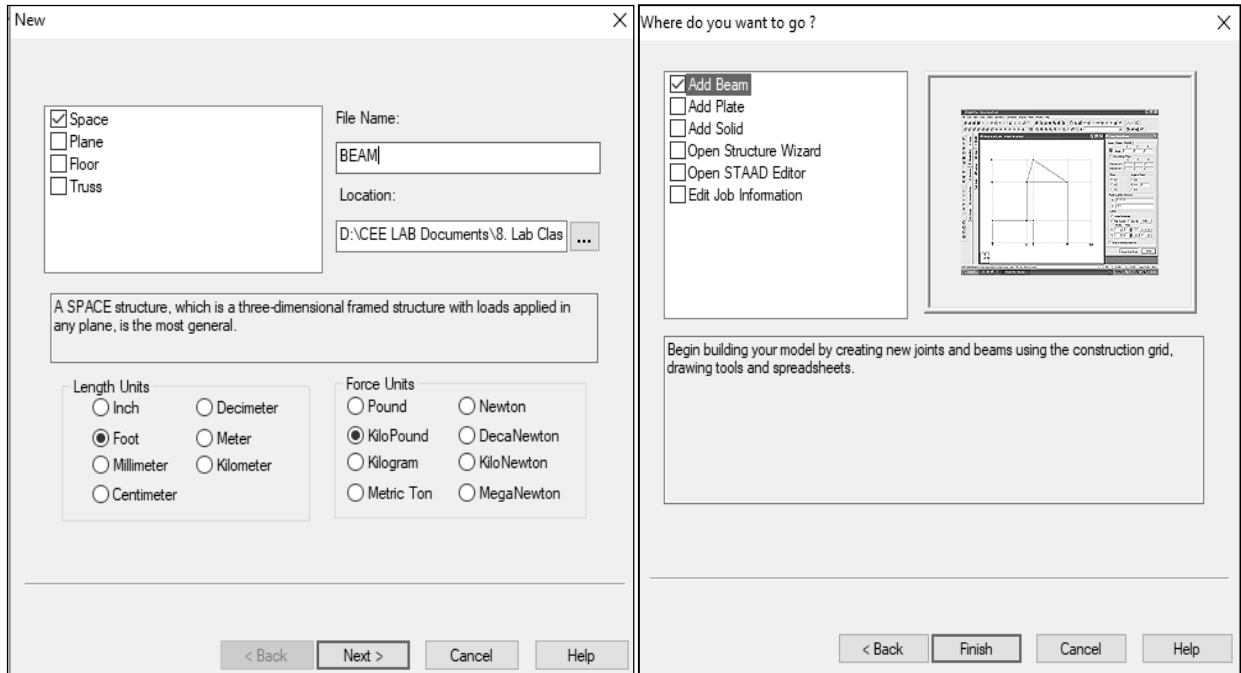

Fig: 3.2
- 1.1 Open STAAD Pro. software → File → New → Click on Space → Write the File Name and select Location → Length Units = Foot, Force Units = Kilo Pound → Next → Add Beam → Finish. (Fig: 3.2)